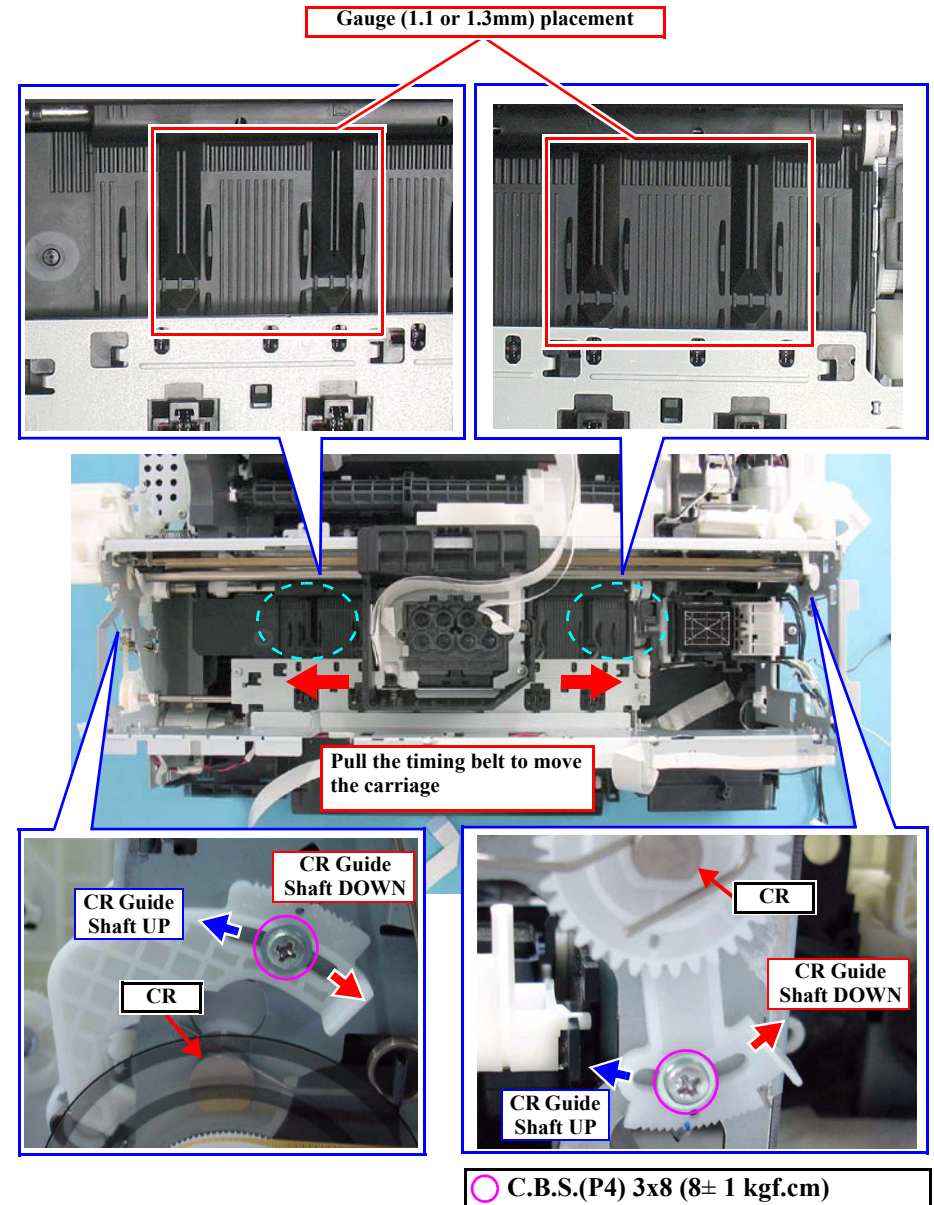

Figure 5-24. PG Adjustment
2. Move the carriage to the center of the platen, and place 1.1 mm thickness gauge on the left aligning its left edge with the second rib of the Front Paper Guide. And place another 1.1 mm thickness gauge on the right aligning its right edge with the rightmost rib of the Front Paper Guide. (Fig. 5-24)